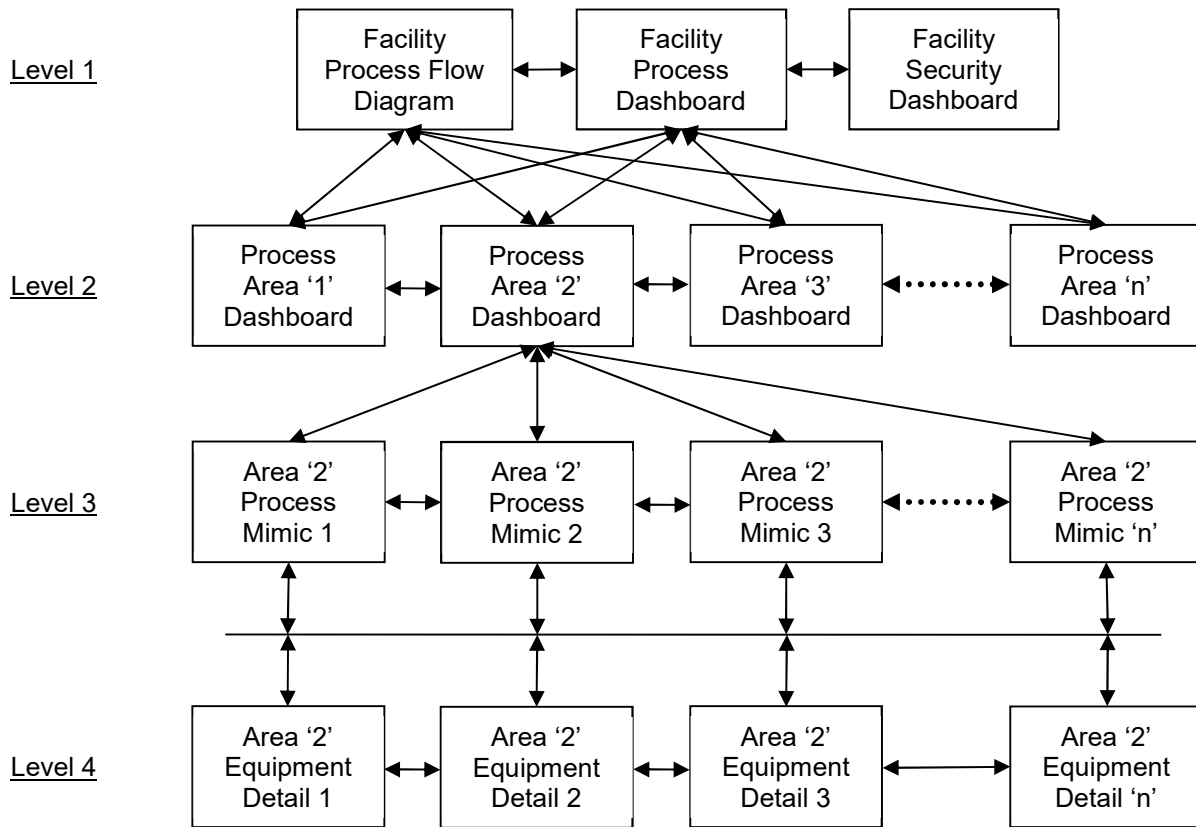

Figure 2-10: Typical Facility HMI Application Display Hierarchy
4. *Up/Down arrows to increase/decrease the setpoint are not shown but should be included (similar to Figure 2.10)*
A typical facility HMI application would have a display hierarchy like that shown in Figure 2-10.
Notes regarding Figure 2-10: